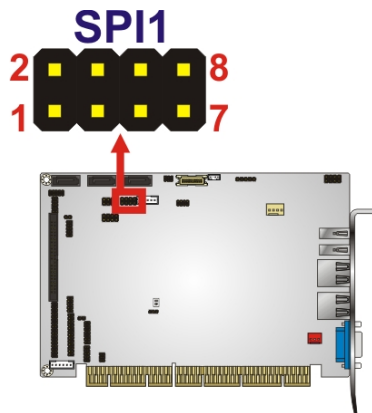

Figure 3-9: Flash SPI ROM Connector Locations
- CN Location:** See Figure 3-9